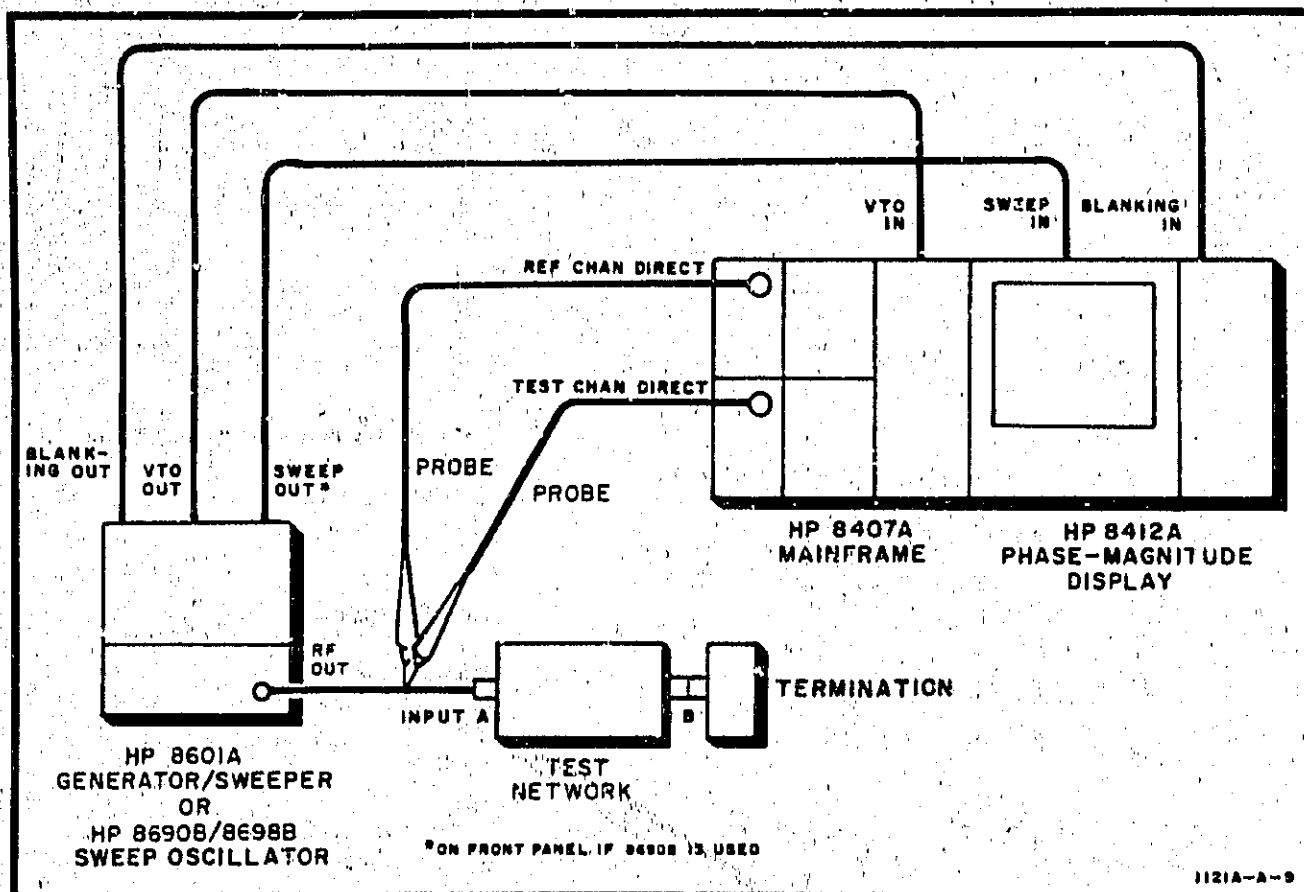

Figure 2. Using Model 1121A for Network Analysis
10. Figure 2 shows the measurement setup. The basic technique is to establish a 0 dB, 0 degree reference trace on the HP Model 8412A Phase-Magnitude Display. The
Model 1121A probe leading to the TEST channel is then moved to point B in Figure 2. The display shows the gain or loss and phase shift of the test network.
a. **TEST SETUP.** Connect equipment as shown in Figure 2 and adjust sweeper power output until REF CHAN LEVEL meter on the Model 8407A indicates in the operating range.
d. **TEST.** Move the probe leading to TEST channel to point B (Figure 2) and make the measurement